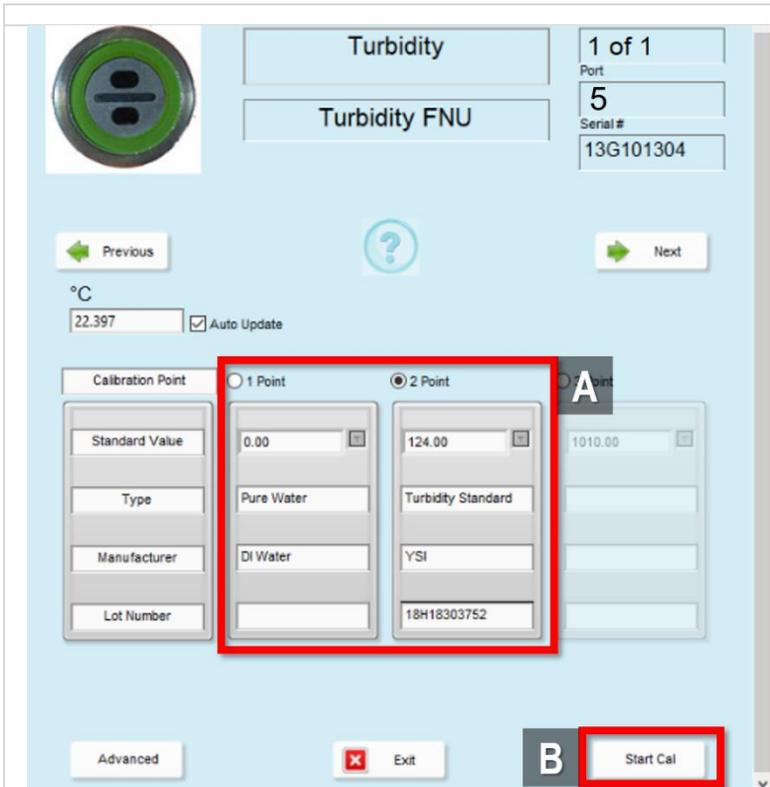

Figure 102. Parameters for a 2-Point Calibration for Turbidity
- Select 2-point or 3-point calibration (Figure 102 is an example of a 2-point calibration)
Then click **“Start Cal”** (B in Figure 102).